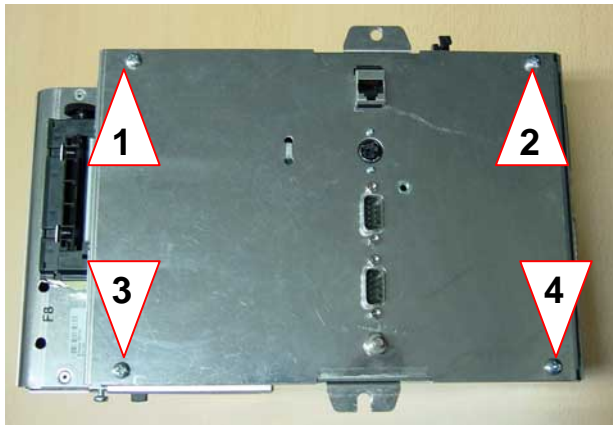

Fig. 3-46 PC tower (rear view)
2. Open the mounting screws of the PC tower rear panel (see Fig. 3-46, **1** to **4**).
3. Open the mounting screws of the PC tower rear panel (see Fig. 3-46, 1 to 4 on page 3-33).